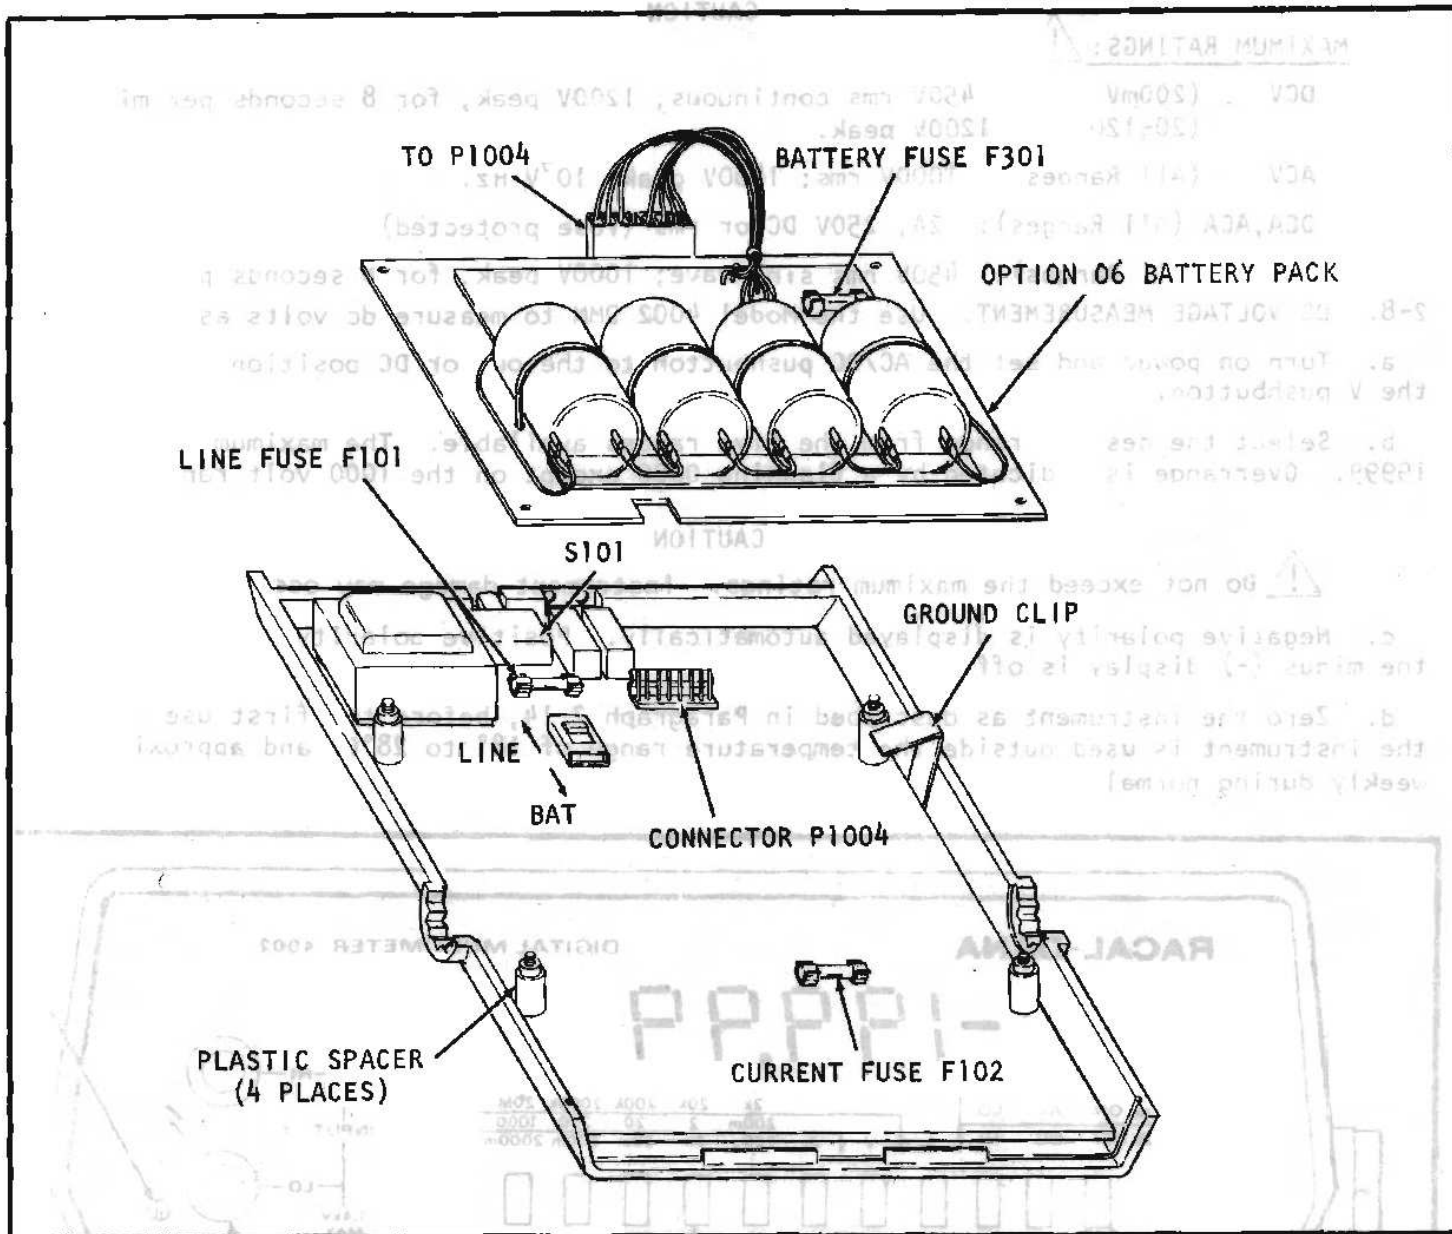

FIGURE 2-2. Battery Pack Installation
2-5. OPERATION ON BATTERY PACK POWER. The Model 4002 DMM may also be operated from rechargeable sealed lead-acid batteries contained in the Option 06 Battery Pack. The battery pack will operate the 4002 DMM for up to 6 hours. Circuits within the battery pack will automatically shut down the instrument when the battery charge is insufficient to maintain accurate readings. Refer to Figure 2-2 and install the battery pack as follows:
- c. Set the BAT/LINE switch to the BAT position shown in Figure 2-2. Note that the battery pack will not operate properly if this switch is not in the BAT position.